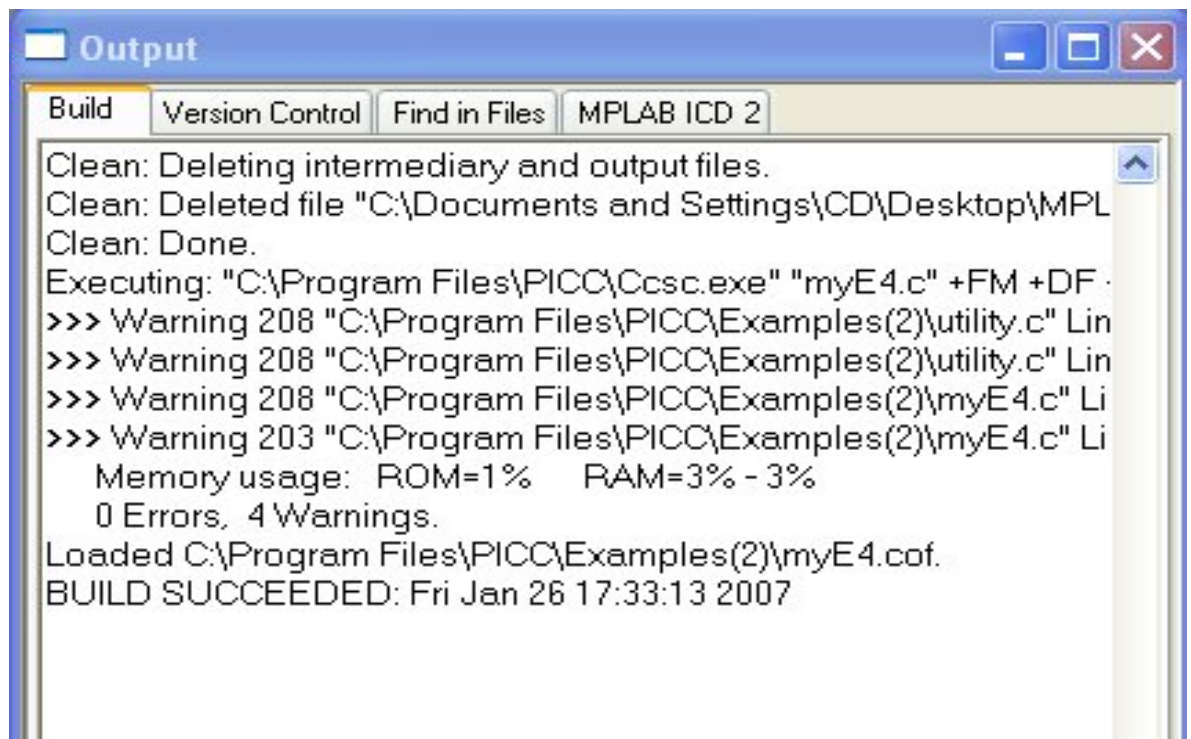

Figure 16: Compile Project
- *Project* → *Compile* (Fig. 16)